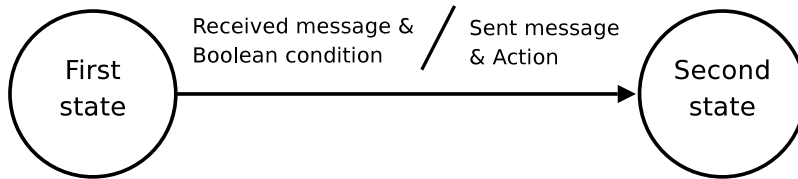

Figure 1: Notation for state diagrams
- Figure 1 shows the notation for state diagrams where components receive and send messages, changing from one state to another. Consider a dishwasher that is programmed as a port object. Every time the dishwasher receives an input (a dish, a glass, etc.), it analyses whether it is full or not. When it is full, it does not accept any other input and waits for a message to start cleaning the dishes. In order to know when the cleaning task is done, it sends a message to a timer that send a message back after reaching the time out. After that, the machine must come back to the empty state.
Model the state diagram of the dishwasher using the notation described on Figure 1.